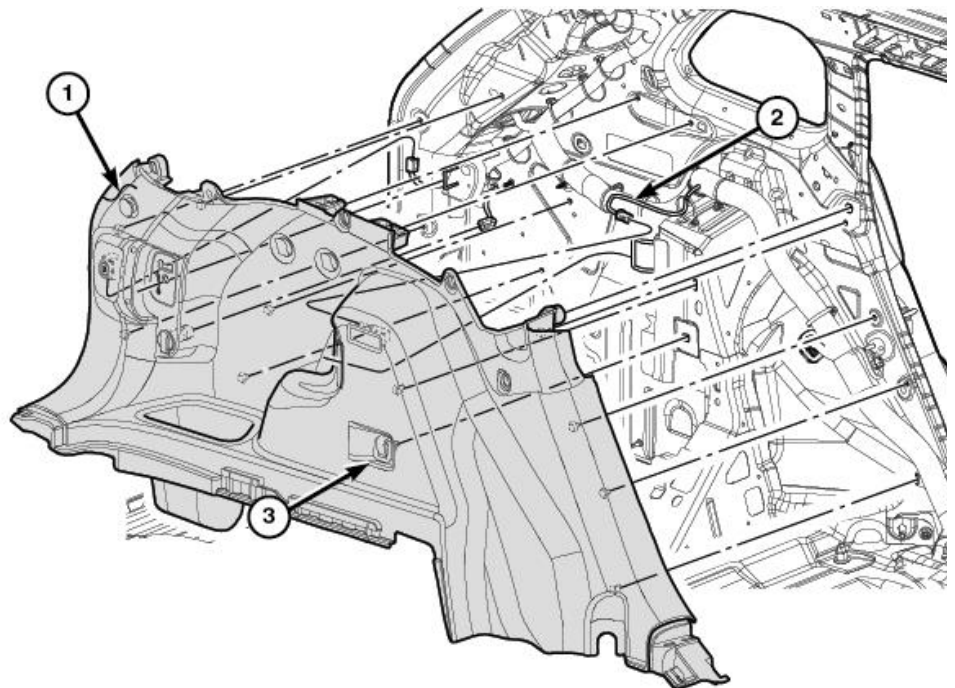

Figure 22 – Lower Quarter Trim Panel (Passenger Side Shown, Driver Side Similar)
10. Remove the screws (3) (Figure 22).
13. If equipped, disconnect the electrical connectors (2) (Figure 22).
14. Remove the quarter trim panel (1) (Figure 22).
25. Place the lower quarter trim panel (1) in position to the body (Figure 22).
26. If equipped, connect the electrical connectors (2) (Figure 22).
28. Install and securely tighten the screws (3) (Figure 22).